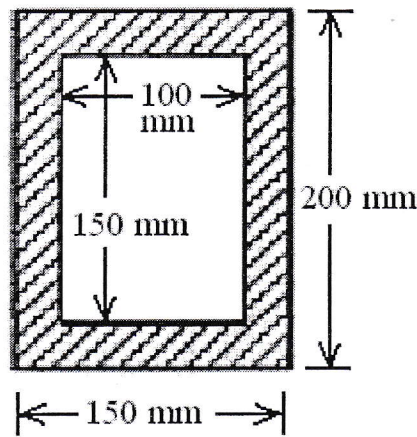

Figure: 2
4. A simply supported beam 4 m long has the cross section shown in Figure 2. Determine the maximum uniformly distributed load which can be applied over the entire length of the beam if the shearing stress is limited to 1.2 MPa . [15]
4. A simply supported beam 4 m long has the cross section shown in Figure 2. Determine the maximum uniformly distributed load which can be applied over the entire length of the beam if the shearing stress is limited to 1.2 MPa. [15]